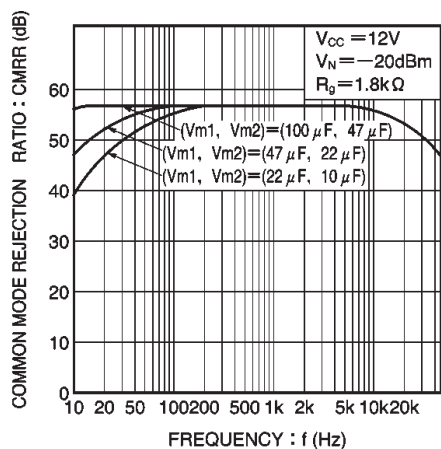

Fig. 16 Common-mode rejection ratio vs. frequency
- (1) Maintain a ratio of 2: 1 for the values of the capacitors connected to pin 2 (V_{m1}) and pin 6 (V_{m2}) to keep the ripple rejection ratio stable. If this ratio is maintained, the ripple rejection ratio will not vary significantly even if the capacitance values are halved.
- (2) If the value of the capacitor connected to pin 2 (V_{m1}) in the example is doubled, the bass-region CMMR will be +6dB, and if it is halved, it will be -6dB (see Fig. 16).